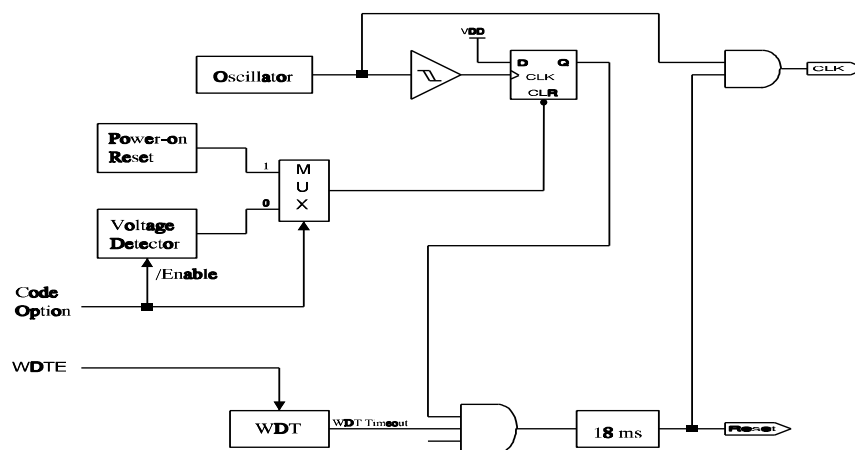

Figure 5-9 Block Diagram of Reset of controller
- (1) External /RESET pin
- (2) Power on reset or Power on voltage detector reset (/POVD reset)
- (3) WDT timeout (If enabled and in Green or Normal mode)
Note that only Power on reset or Power on voltage detector reset in Case (2) are enabled in the system by Code Option bit. If /POVDs are disabled, Power on reset is selected in Case (2). Refer to Figure 5-9.